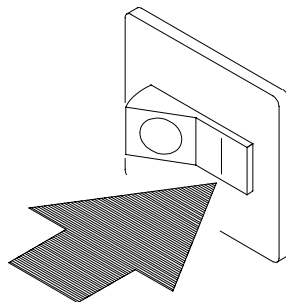

Figure 36. The Power Switch
2. Set the power switch to the ON position (Figure 36). The printer initializes and runs several self-tests. The messages "TESTING HARDWARE / PLEASE WAIT" and "DIAGNOSTICS / PASSED" will each display briefly. When the self-tests complete and the software has initialized successfully, the message "ONLINE / LG" appears on the message display.